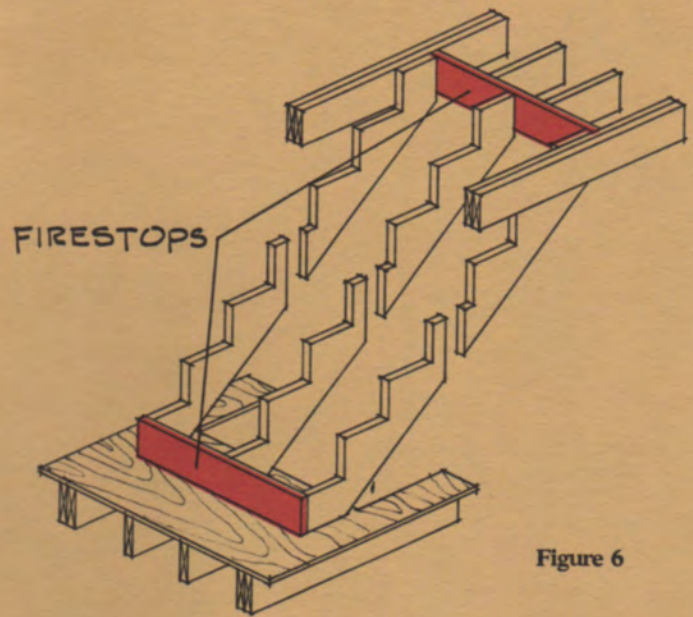

Figure 6
(3) In concealed spaces between stair stringers at the top and bottom of the run (Figure 6).